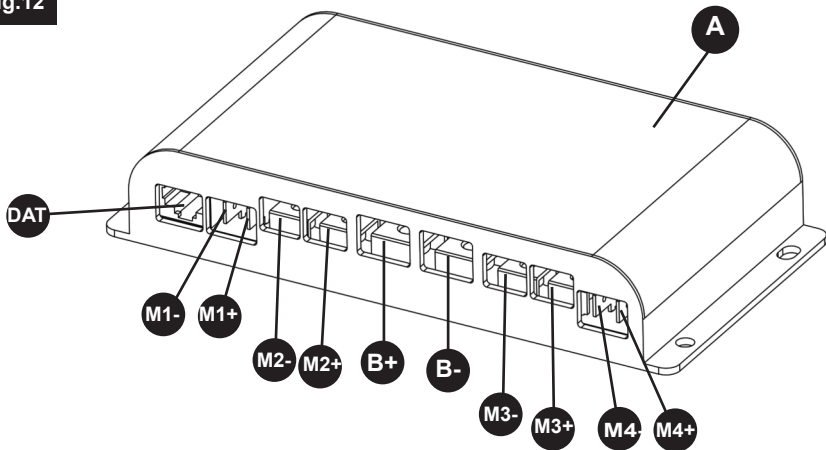
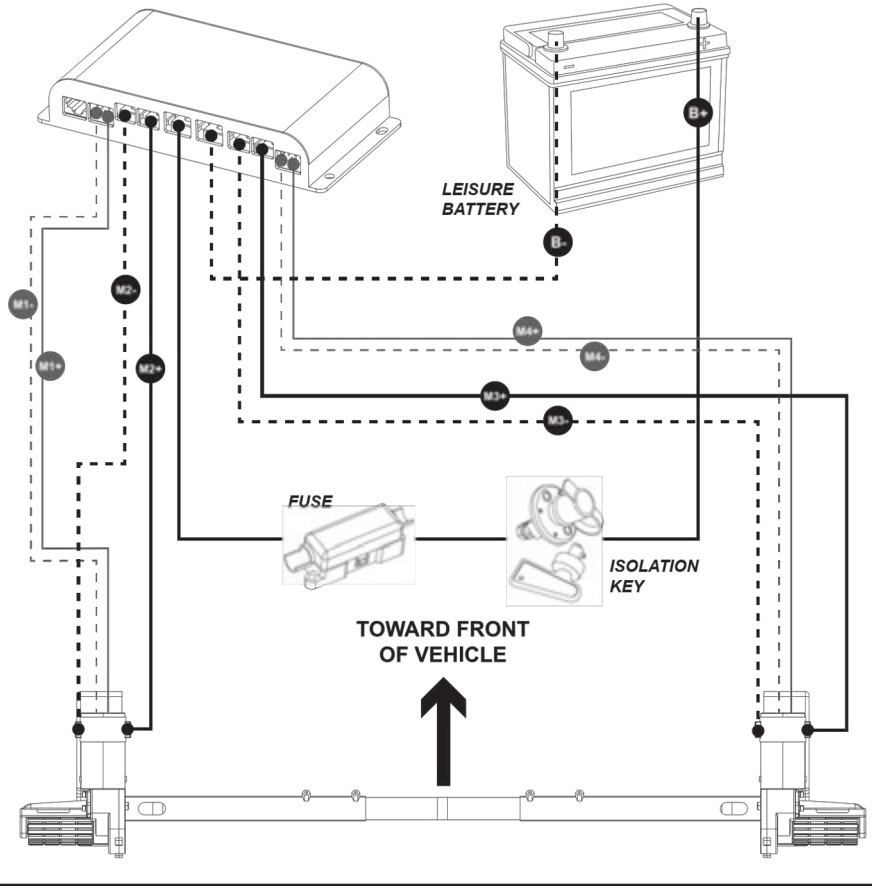

Fig.13
Fig.14
Study Fig.13. The wiring diagram (Fig.13) depicts the wiring route when installing the motor units in FRONT of the wheels/axle, facing the rear of the trailer. Fig.14 displays the polarity of the terminals on the movers. Note that these locations remain the same regardless of whether the motor is the left or right side mover.
Install the Isolation Switch (29) between the battery and the Control Unit (Fig.13) on the positive [+] cable (14), using two of the 6mm Terminal Ring Connectors (23) to link the cable to the switch terminals. These connectors will require crimping to the end of the wires. Ensure to leave sufficient wire length to reach from the battery to isolation switch and from isolation switch to electronics box.
With the supplied battery wires (14,15), proceed to wire the battery to the electronics box, via the previously installed isolation switch and fuse, as outlined in the wiring diagram (Fig.13). 6mm Terminal Ring Connectors are already attached to the battery wires for connection to the electronics box, whilst two sizes of ring connectors (22,23) are supplied for connection to the battery itself.
The motor wires (12,13) now need connecting to the system. Again using Fig.13 for reference, proceed to route the motor wires (12,13) through the hole previously drilled in the vehicle floor and along the underside of vehicle toward the designated motors. Supplied are various components which will aid with the safe fixing of these wires, including: Convuluted Cable trunking (11) - to protect the wires from sharp edges, P-clips/screws (19,20,21) - for mounting the wires to surfaces, and Cable Ties (27) - to fix wires together or to sections of the chassis where necessary. Cable Number (25) and Polarity (26) markers are also supplied to aid with labelling of wires for ease of installation. When routing the wires, aim to keep these as central along the caravan as possible in attempts to keep the wiring the same length.
Once all wires are correctly attached as per Fig.13, the electrical installation is complete.